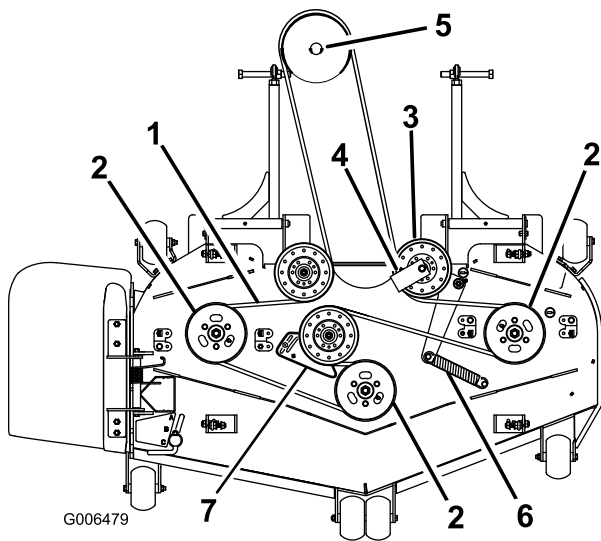
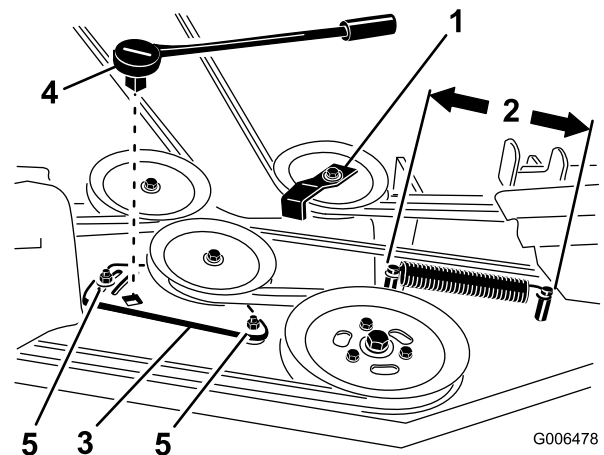

Figure 63
Figure 65
4. For 72 inch mowers, loosen the idler plate bolts holding the idler plate (Figure 65).
6. Remove the belt guide on the spring loaded idler pulley shown in Figure 63 and Figure 65.
8. Install the new belt around the mower pulleys and the gearbox pulley under the engine (Figure 63).
- Measure the spring length (Figure 65). If the spring length is between 10 and 10-1/4 inches (25.4 and 26.0 cm), from post to post, no adjustment is needed.
- Loosen the bolts holding the idler plate (Figure 65).
- Insert a ratchet or breaker bar into the square hole in the idler plate to adjust the tension (Figure 65).
- Rotate the ratchet or breaker bar to move the idler plate until the idler spring is between 10 and 10-1/4 inches (25.4 and 26.0 cm) from post to post as shown in Figure 65.
- While holding the belt tension and spring length, tighten the idler plate bolts that secure the idler plate (Figure 65).
- Install the belt guide on the spring loaded idler at a 45 degree angle as shown in Figure 63 and Figure 65. Torque the bolt to 27 to 33 ft-lb (37 to 45 N-m).
- Install the idler spring to the two posts (Figure 63 and Figure 65).